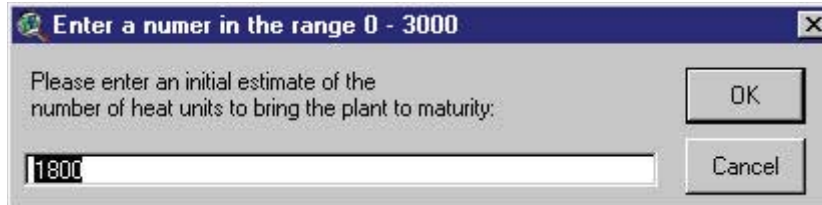

Figure 8.9
- ii. If you click **No**, a dialog box will appear asking for a default heat unit value (Figure 8.9). The default heat unit value will be used for all land cover/plants within the watershed. Click **Cancel** to abort. Click **OK** to use the current value in the input box.